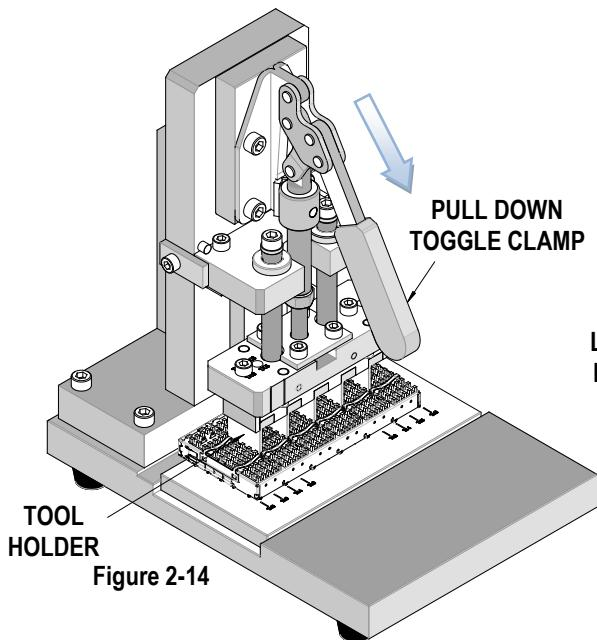

Figure 2-14
2. Pull the toggle clamp lever on the press down to hold the heat sink clip in place against the cage assembly. See Figure 2-14 and 2-15.